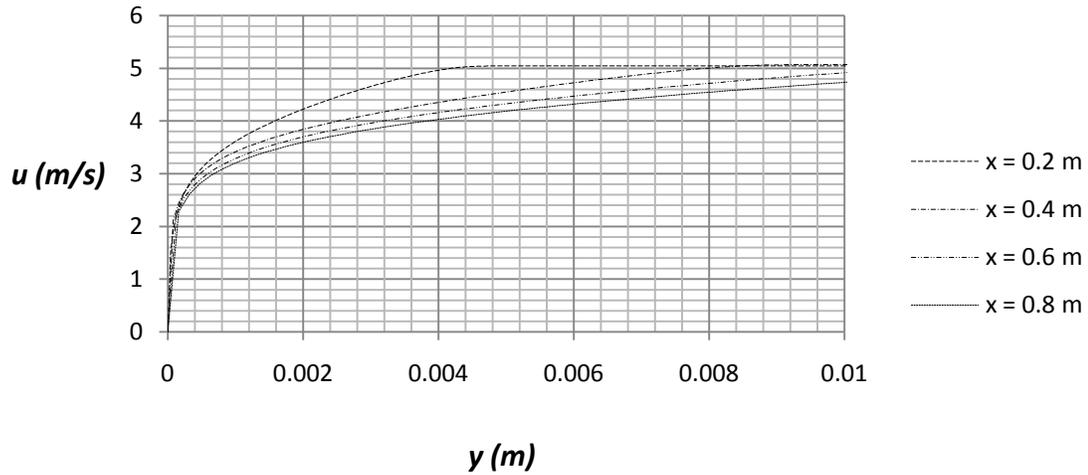

Figure 2.30a) FloWorks comparison for turbulent boundary layers at $Re_x = 10^6 - 4.1 \cdot 10^6$
32. Place the file “xy-plot figure 2.30a)” into the **Local Disk (C:)/SolidWorks/COSMOSFloWorks/FloWorks/lang/english/template/XY-Plots** folder to make it available in the **Template** list. Repeat step 24 and choose the sketch **x = 0.2, 0.4, 0.6, 0.8 m** and check the box for **X-Velocity**. Rename the xy-plot to **Turbulent Velocity Boundary Layer**. An Excel file will open with a graph of the streamwise velocity component versus the wall normal coordinate, see figure 2.30a). We see that the boundary layer thickness is much higher than the corresponding laminar flow case. This is related to higher Reynolds number at the same streamwise positions as in the laminar case. The higher Reynolds numbers are due to the selection of water as the fluid instead of air that has a much higher value of kinematic viscosity than water.
As an example, the turbulent boundary layer thickness from figure 2.30a) is 4.45 mm at $x = 0.2$ m which can be compared with a value of 4.44 mm from equation (4), see table 2.2.
6. Determine the displacement thickness, momentum thickness and shape factor for the turbulent boundary layers in figure 2.30a) and determine the percent differences as compared with empirical data.